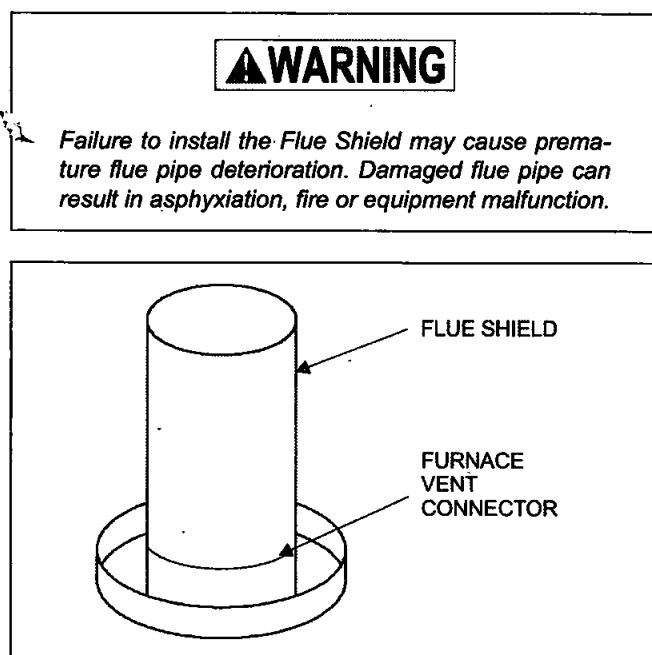

FIGURE 2 - Flue Shield Installation
1. CGAT, COAS and COAT furnace only. Install Flue Shield inside Vent Connector. Push Flue Shield down until in contact with the built-in stop inside the Vent Connector. See Figure 2.